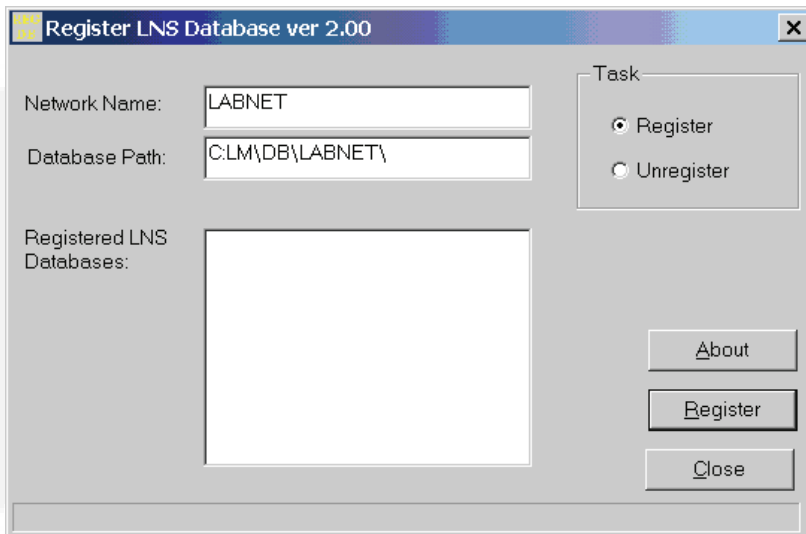

FIGURE 3-9. REGISTERING NETWORK SITE DATABASE
3. Enter the database path. Typically `C:\LM\DB\network name`. See example in Figure 3-9.